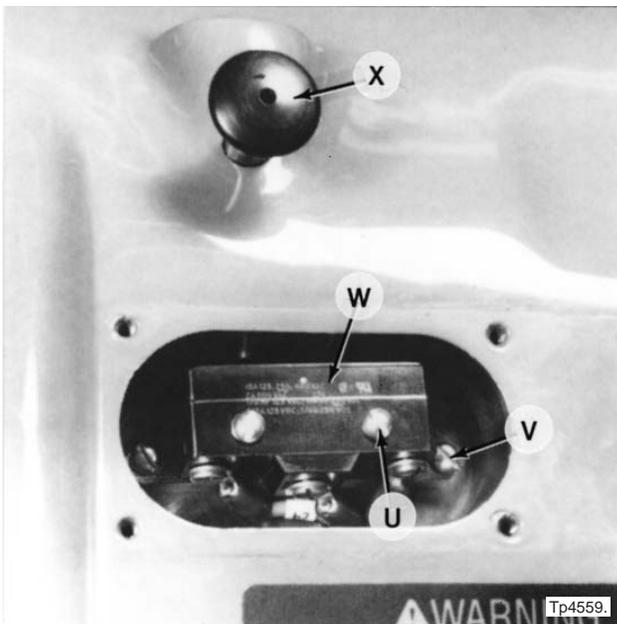

Figure 6.12 - Spindle Lock Pin Limit Switch
26. Remove two screws "U", Figure 6.12, pull limit switch "W" out of the headstock to gain access to the wire terminals on the limit switch.
27. Connect the three limit switch wires to limit switch "W", Figure 6.12 .